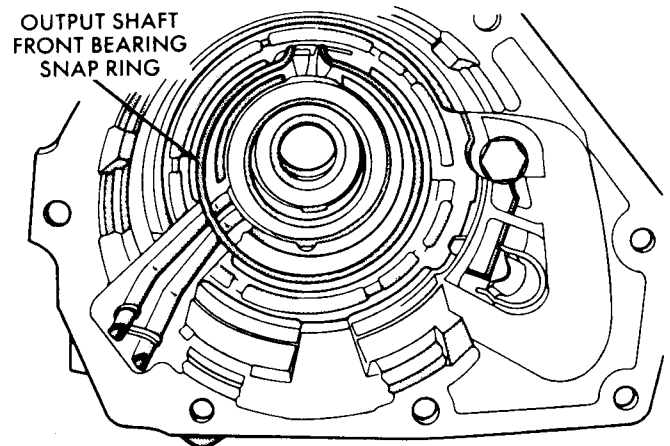
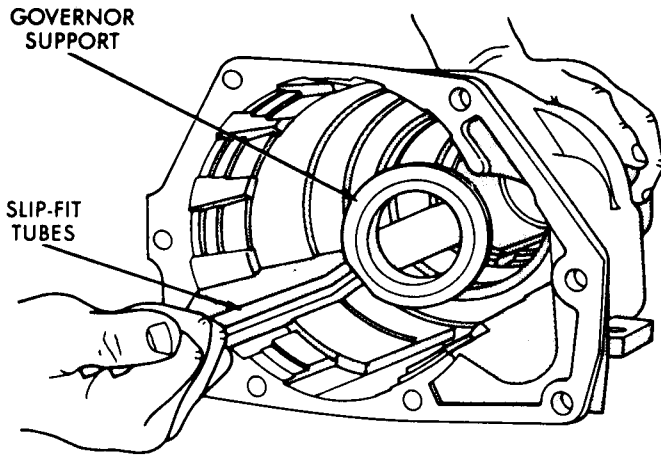

Fig. 11—Front Bearing Snap Ring
Fig. 12—Governor Pressure Tubes
(8) Remove the output shaft front bearing snap ring (Fig. 11), then remove governor support snap ring. Take governor support with slip-fit (pressure) tubes out of the case (Fig. 12).